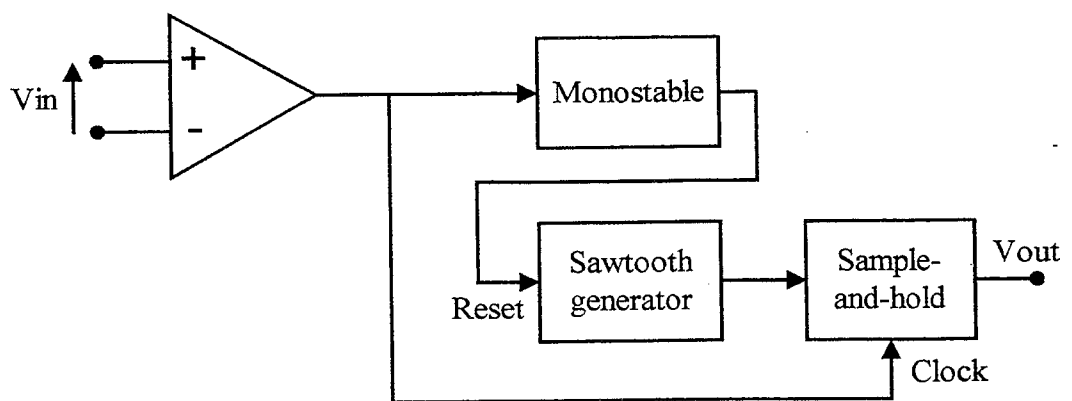

Figure 4
4. (a) *Figure 4* shows a circuit used to perform frequency-to-voltage conversion. Outline the operation of this circuit, and choose a suitable value for the sawtooth waveform slope given that the minimum input signal frequency is 200 Hz. You may assume that the maximum output signal from the sawtooth waveform generator is 10 V.